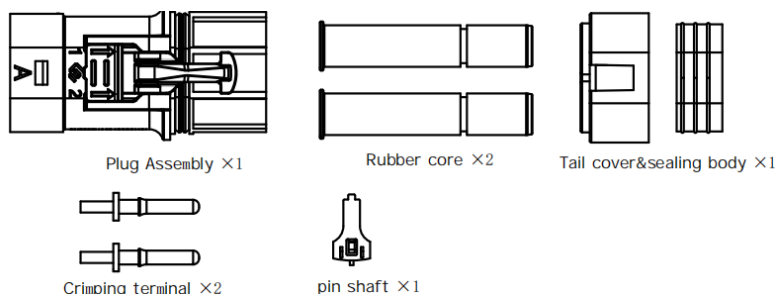

Figure 6-18-1 The material preparation list
1) The material preparation list is shown in Figure 6-18-1.